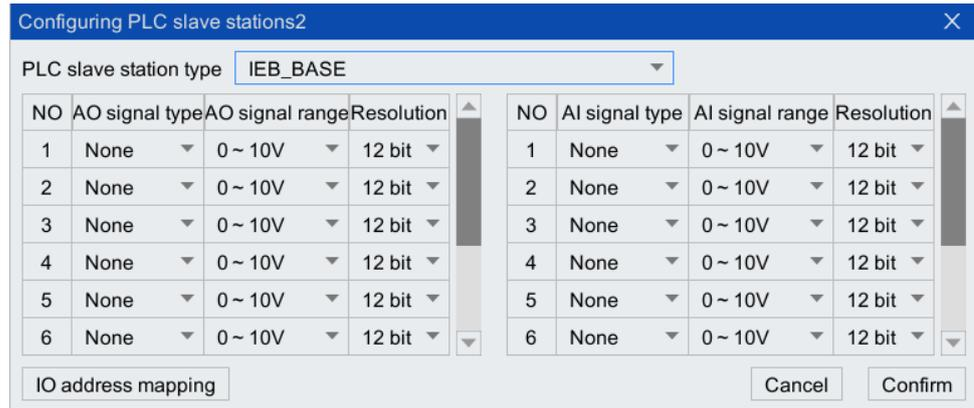
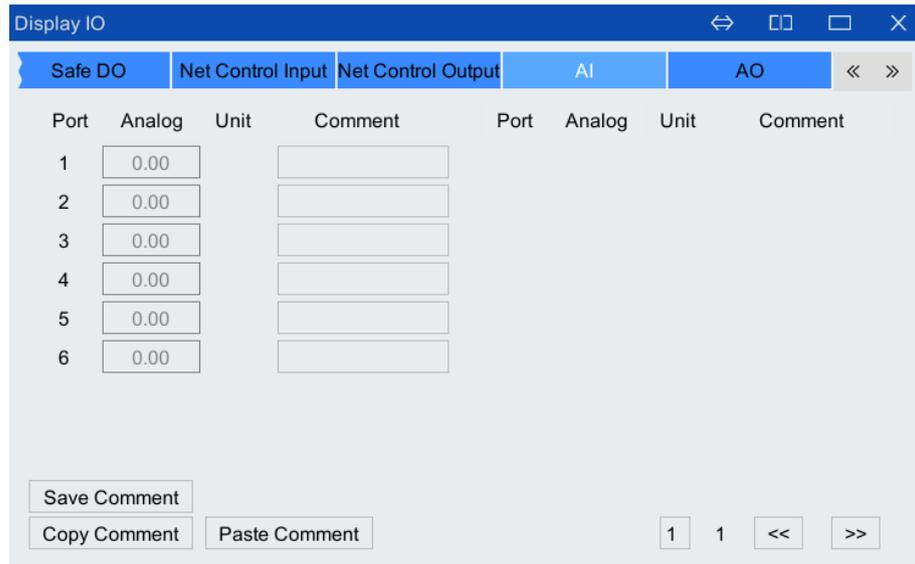
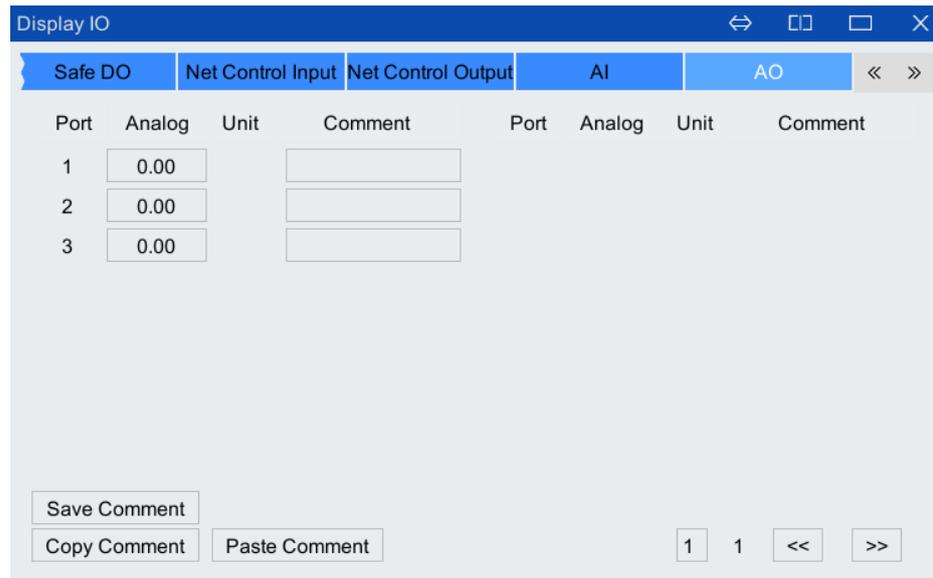

Figure 6-35 IEB_BASE slave configuration
Figure 6-36 "AI" Real-time display of analog in the interface
Figure 6-37 Real-time display of analog quantity in "AO" interface
Step2.Configure IEB_BASE slave station. Please refer to Chapter 8.3.4 for the configuration method. Please refer to Figure 6-35 for the completed configuration interface.
Step4. The "Port Number" 1-6 shown in Figure 6-36 corresponds to the "AI signal type" 1-6 in Figure 6-15; the "Port Number" 1-3 shown in Figure 6-37 corresponds to Figure 6-35. The "AO signal type" in 1-3 corresponds to 1-3. Please refer to Table 6-21 for the setting description in the "AI/AO" interface.